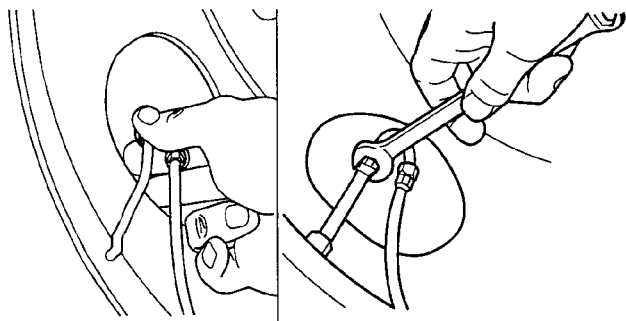

Figure 25: Attaching tire hoses to tire valve stem
4. **Tighten** the tire hose/valve stem connection finger tight (Figure 25).
5. Using a 7/16 inch wrench, **tighten** the tire hose / valve stem connection an additional one-half turn (Figure 25). **DO NOT overtighten this connection.**